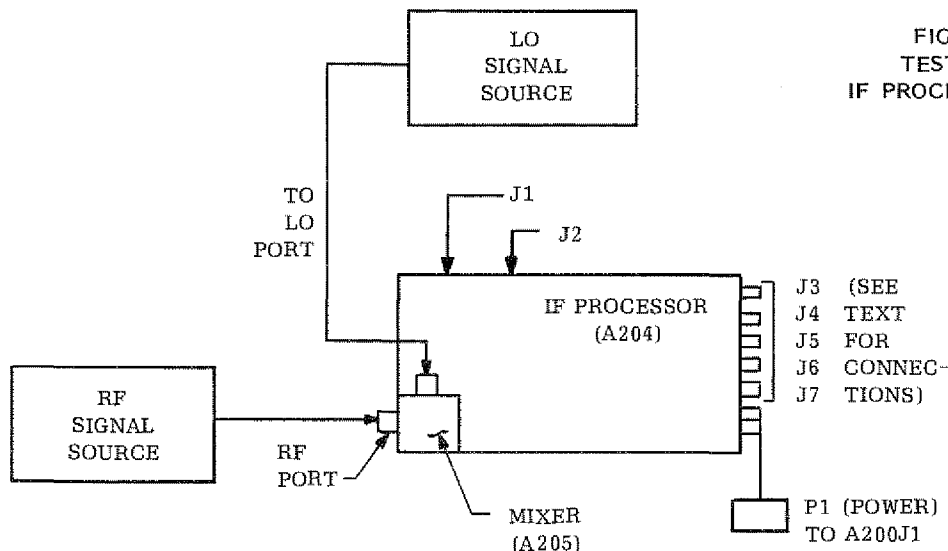

FIGURE 5-3
e. Apply a 0 dBm signal in the 1 - 18 GHz range to the Mixer RF input port (see Figure 5-3). Monitor DC output with oscilloscope at IF converter port (connector that plugs into IF Processor). A DC voltage between 50 and 250 mV should be indicated.
- c. Connect IF Processor to two signal generators as shown in Figure 5-3. Terminate A204J3 in 50 ohms.
- f. Set LO signal source for $1\text{ GHz} \pm 1\text{ MHz}$ at -16 dBm , and apply to LO Mixer port (see Figure 5-3).